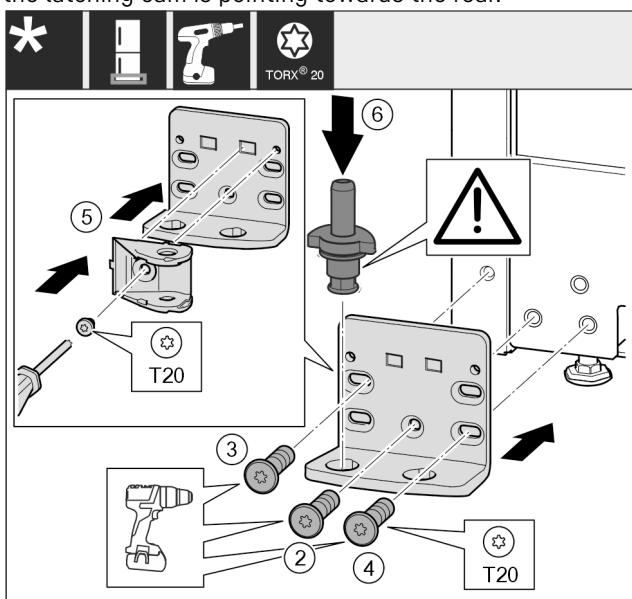

Fig. 21 *
- Place the swap bearing block on the other side and use a screwdriver to screw it on. Start with the screw Fig. 21 (2) at the bottom in the middle.*
- Tighten screw Fig. 21 (3) and screw Fig. 21 (4).*